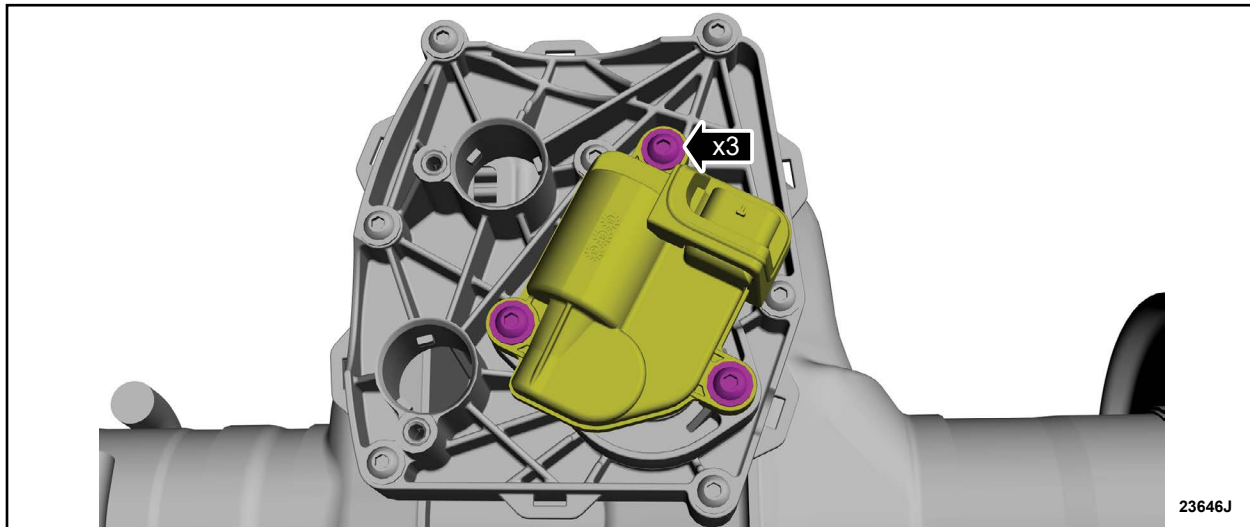

FIGURE 9
9. Align the bolt holes and install the bolts. See Figure 9.